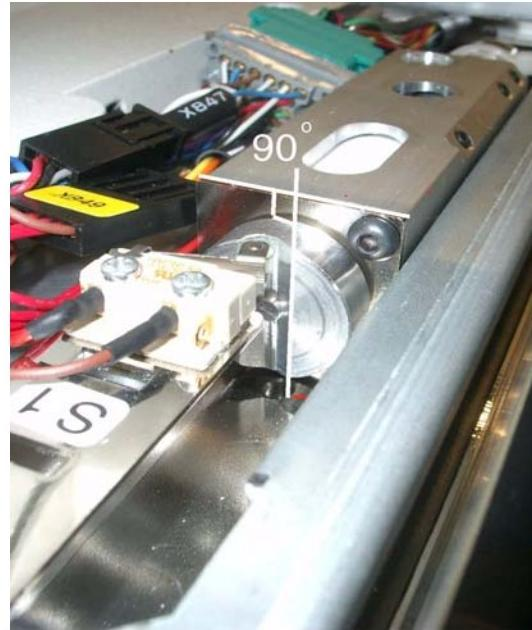

Fig. 7 Adjust grid motor wheel
2. Check if the slits are horizontal to the detector table (see Fig. 7).
4. Check if the slits are horizontal to the detector table (see Fig. 7).